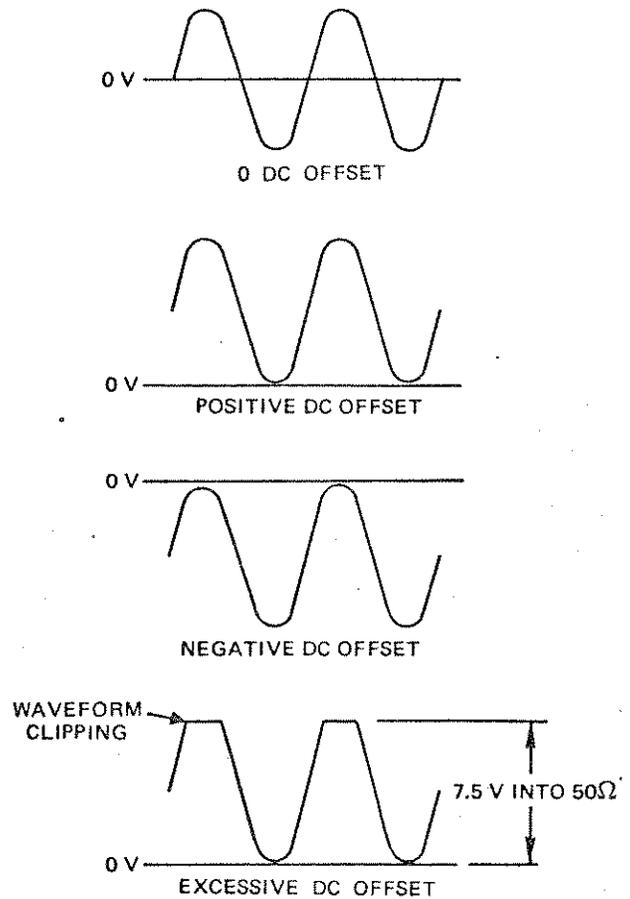

Figure 2-3. DC Offset Control
5. Select the polarity of dc offset desired using the DC OFFSET switch, and set the amount of offset using the VERNIER control. If an excessive amount of dc offset is used, waveform clipping may be observed. The sum of peak waveform voltage and dc offset cannot exceed the maximum rated output of the main generator. Maximum output is 15 V peak to peak or 7.5 V peak above and below 0 volts. Offset plus peak voltage cannot exceed 7.5 V. (See Figure 2-3.)